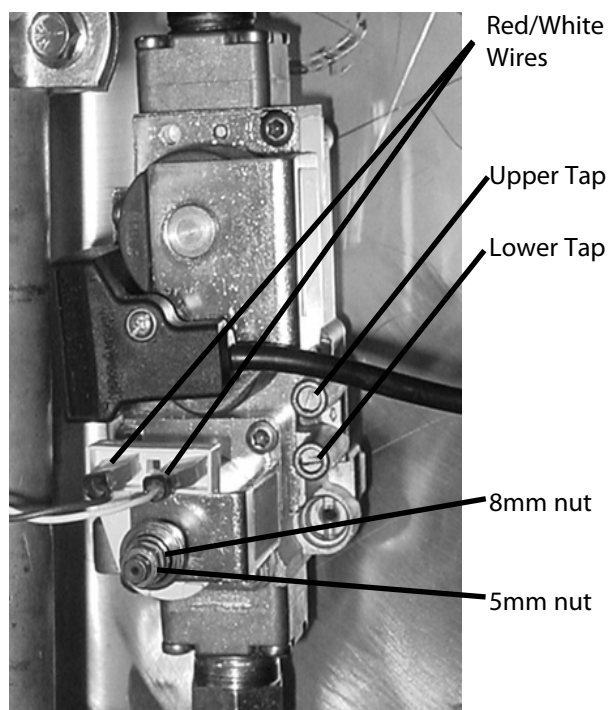

Figure 4: Gas Valve
4. Attach the digital manometer to the upper tap of the gas valve (Figure 4). This tap will show the incoming pressure before the internal regulator of the gas valve.
4. During warmup (both fan speeds are at 65% and the oven is at 100% flame), attach the manometer to the lower tap of the gas valve (Figure 4).
6. If not, use an 8mm nut driver to adjust the 8mm nut (Figure 4) until the manometer reads 3.5" W.C. (88.9 mmH₂O, 8.71 mb), unless operating I₂L gas, as noted above (turn clockwise to increase the pressure, counter-clockwise to decrease the pressure).
1. Remove either the red or white wire (Figure 4).
2. Attach the electric manometer to the lower tap of the gas valve (Figure 4).
4. During warmup (both fan speeds are at 65% and the oven is at 100% flame), attach the digital manometer to the upper tap of the gas valve (Figure 4).